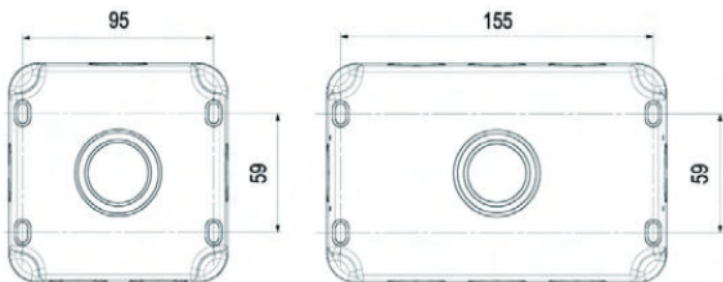

Fig. 1
- Remove the front assembly from the backbox and carefully lift off the gasket. Drill the required number of fixing holes in the backbox (see Fig. 1)